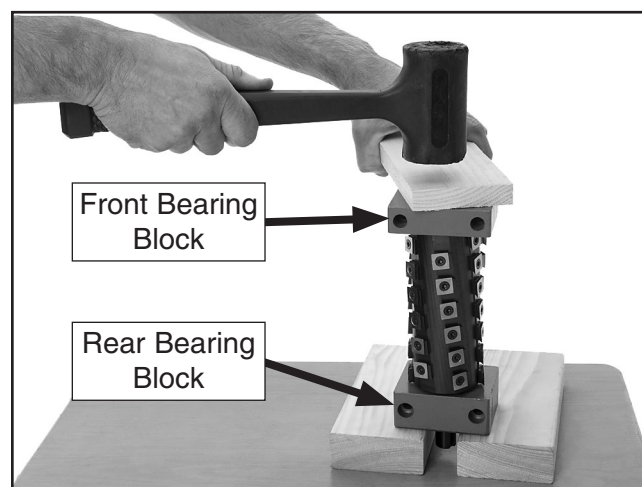

Figure 8. Seating rear bearing block onto spiral cutterhead.
16. Stand the cutterhead upright between the two 8" 2x4 blocks, then use a piece of scrap wood and a dead blow hammer to seat the cutterhead into the bearing blocks, as shown in **Figure 8**.